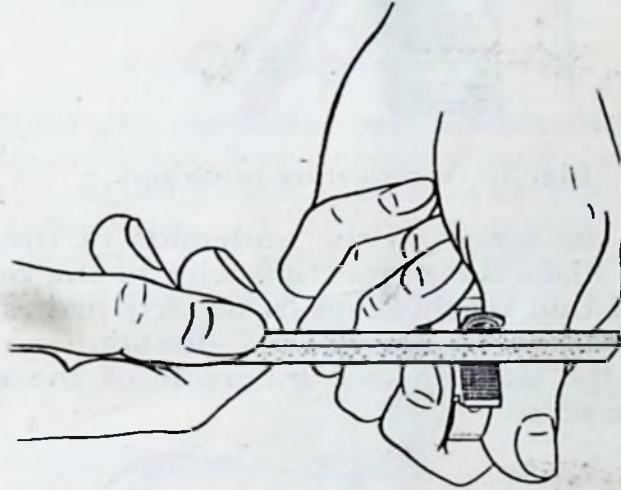

Fig. 4. Cleaning contacts with moving contact removed.
rods close to the brake expander. The next operation is to connect the longitudinal rods (8) to the long levers of each balance unit on front and rear axle. Where there are any connecting or swinging links see that these are lying approximately $\frac{3}{4}$ " towards whichever axle they belong. Now to arrive at the pedal (10). First see that the pedal is in its highest position, keeping this position by either tying back or supporting it in some way. Carry forward the work of connecting the longitudinal rods (8) to the pedal rocker. Situated on the pedal are two small rocker arms, and the pedal boss is drilled to take a small spring plunger. When correctly adjusted there is a $\frac{1}{16}$ " gap between these rocker arms and the pedal boss. The spring plunger is the means of obviating rod rattle (Fig. 4 on the back of the lubricating chart).
Adjust the front longitudinal rod until the required $\frac{1}{16}$ " gap is at the front rocker arm. Adjust rear longitudinal rod until there is $\frac{1}{16}$ " gap at rear rocker arm, Fig. 4. Now adjust the control spring through which the rear longitudinal rod passes. This should be adjusted to a given length $1.11/16$, Fig. 4. The adjustment is now completed and car should be quite satisfactory to drive away for all conditions.